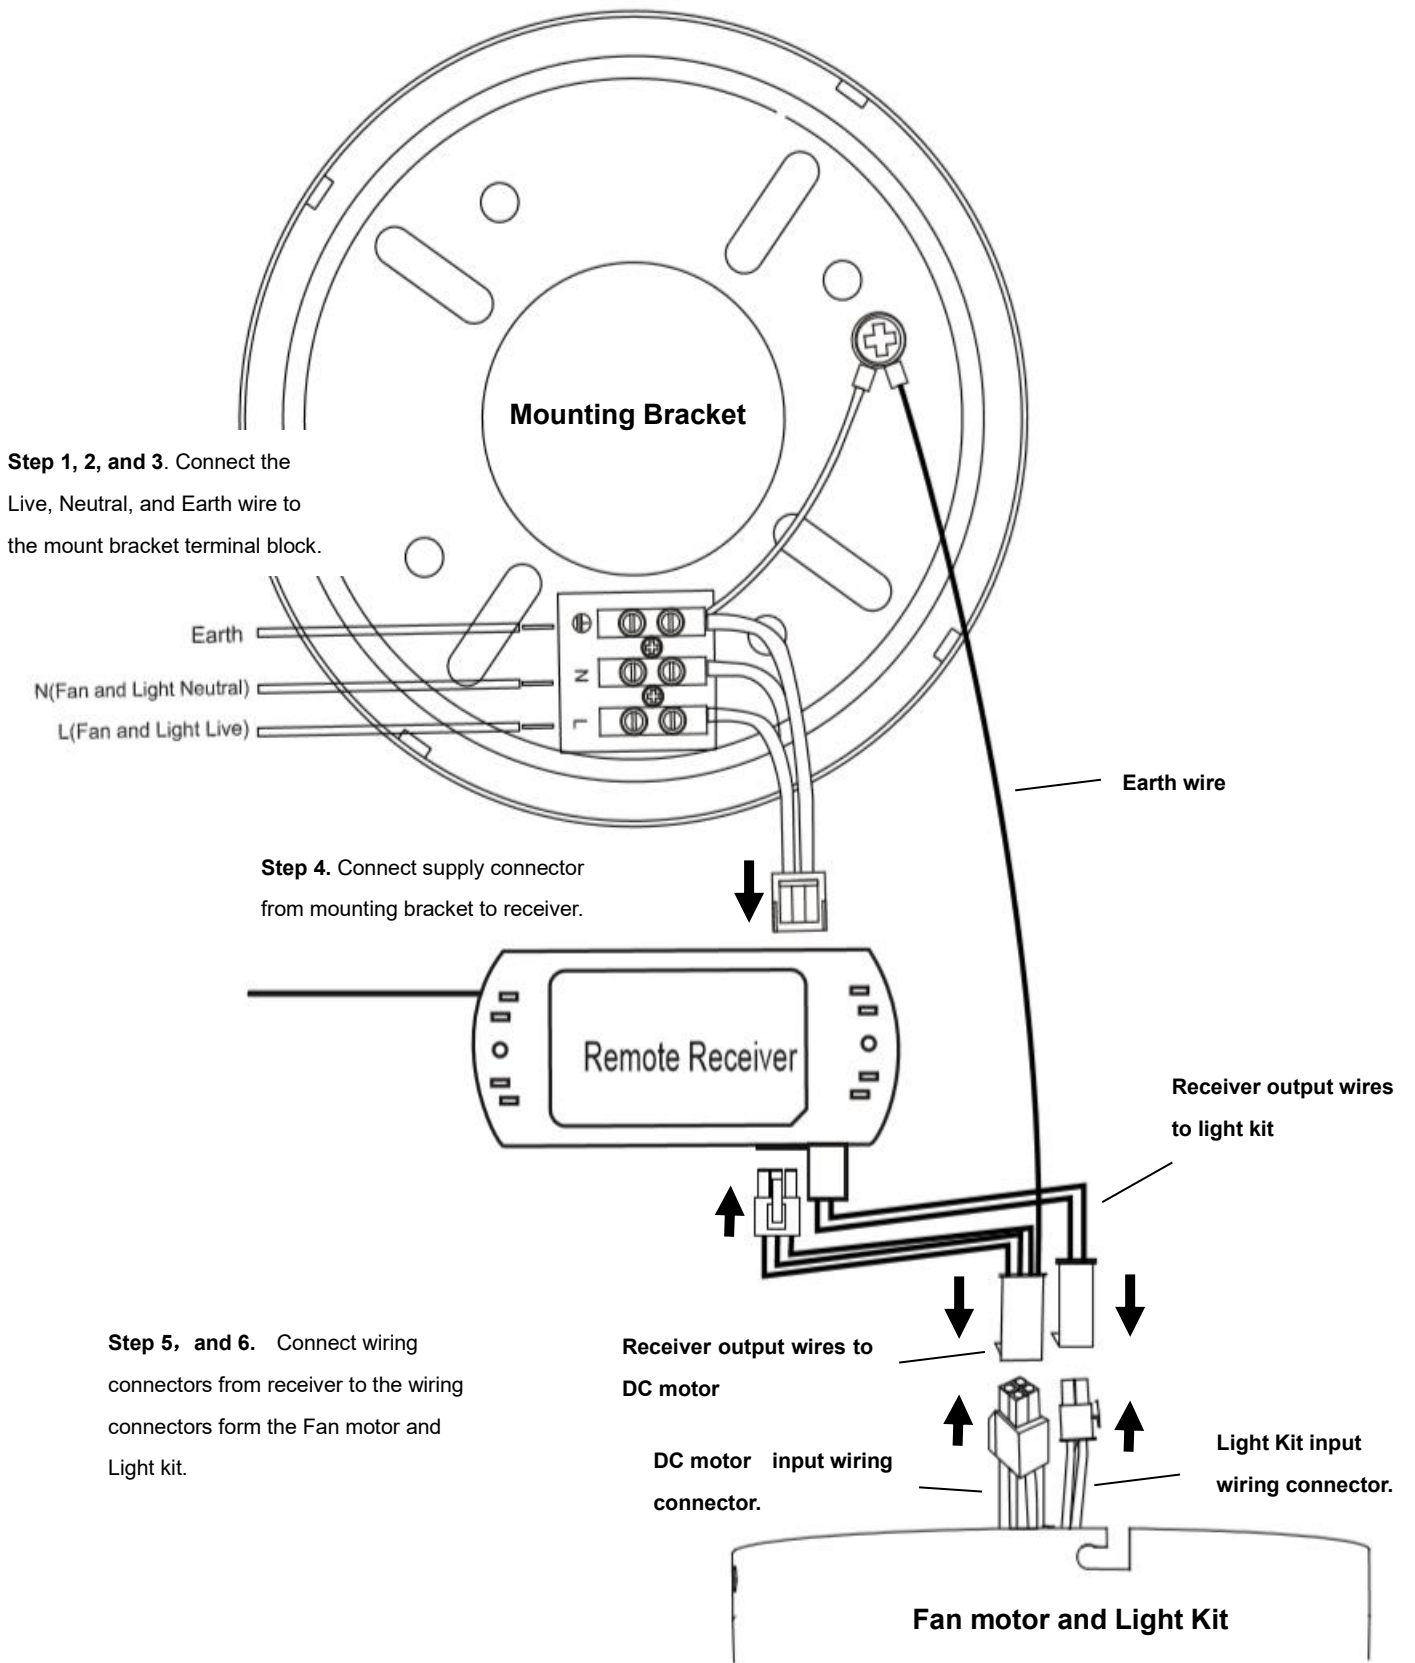

Fig. 4
PREPARE AND COMPLETE THE ELECTRICAL WIRING --- WIRING DIAGRAM (FIG. 4)
From mains supply to mounting bracket terminal block: (Fig. 4)
From mounting bracket to receiver and motor: (Fig. 4)
- Connect the output wires of DC motor driver/receiver (from mounting bracket with earth wire) to the output of the DC motor driver/receiver (**Fig. 4**). Connect the output wires of DC motor driver/receiver with earth wire (from mounting bracket with earth wire) to the input of the fan motor (**Fig. 4**)